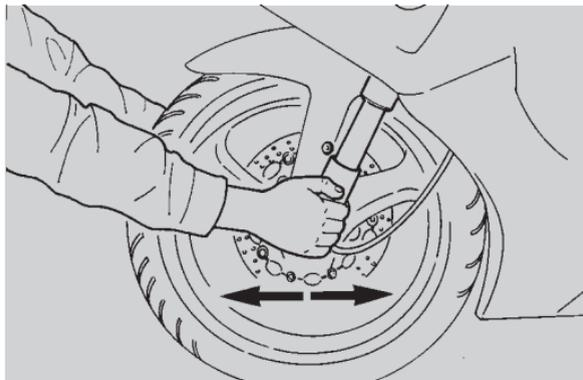

Fig. 42
- shake the fork in the driving direction (Fig. 42);